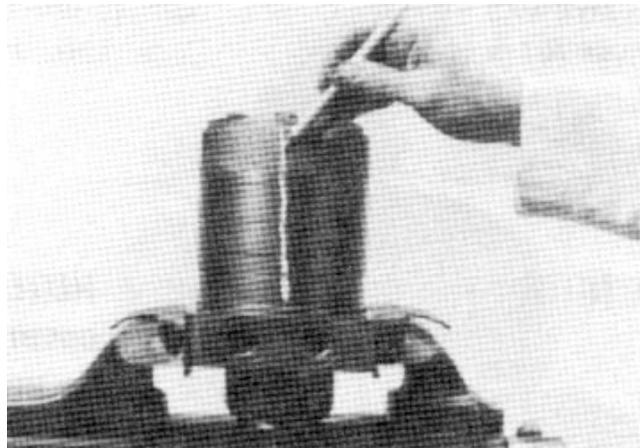

Figure 33
1. Place wheel motor in a soft jawed vise with the coupling shaft (11) pointed down and the vise jaws clamping firmly on the sides of the housing (3).
2. Scribe an alignment mark down and across the wheel motor components from the end cover (24) to the housing (3) for facilitating reassembly (Fig. 33). If included in end cover, loosen both shuttle valve plugs (left-hand motor only) for disassembly later.
3. Remove seven cap screws (14). Remove end cover assembly (24) and seal ring (5).
**Note:** O-ring (25) is not included in the seal kit, but can be serviced separately if required.
**Note:** The insert and, if included, the orifice plug in the end cover assembly (24) must not be removed as they are serviced as an integral part of the end cover.
4. If the end cover (24) is equipped with shuttle valve components (left-hand motor only), remove both previously loosened plugs and O-rings (25).
5. Remove commutator ring (23).